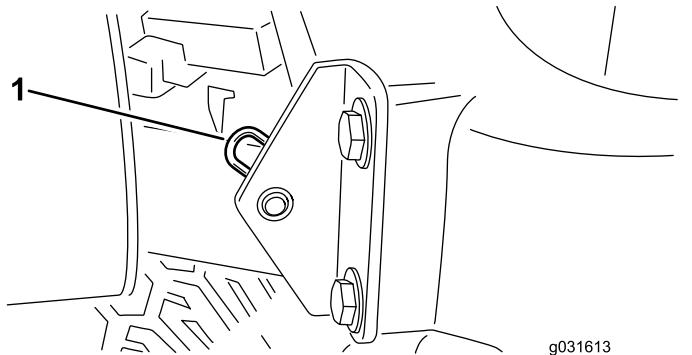

Figure 55
2. Remove the hairpin cotter securing the hood pivot to the mounting brackets (Figure 55).